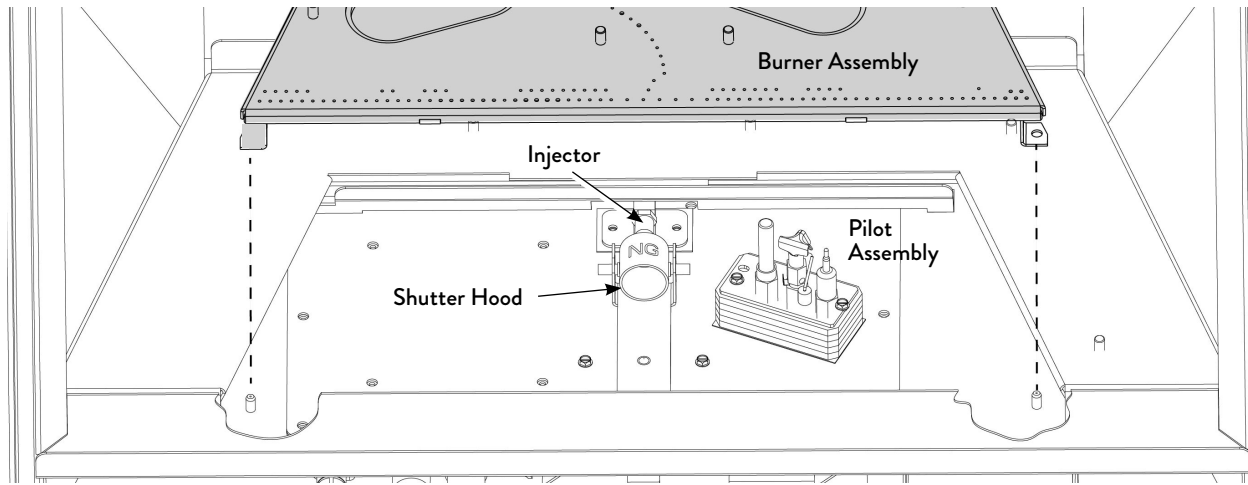

Figure 7.4. Burner and injector removal.
3. REMOVE THE BURNER - Fig. 7.4
4. CHANGE THE BURNER INJECTOR: Use a 1/2" or 13 mm open-end wrench or deep-well socket to remove the original burner injector from the brass fitting at the rear of the firebox. See fig. 7.4. Install the injector from the conversion kit and tighten.